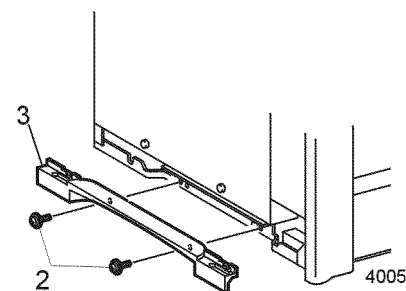

Figure 1 Lower Left Cover
2. Remove the 2 Screws that secure the Lower Left Cover to the printer (Figure 1).
3. Remove the Lower Left Cover (Figure 1).